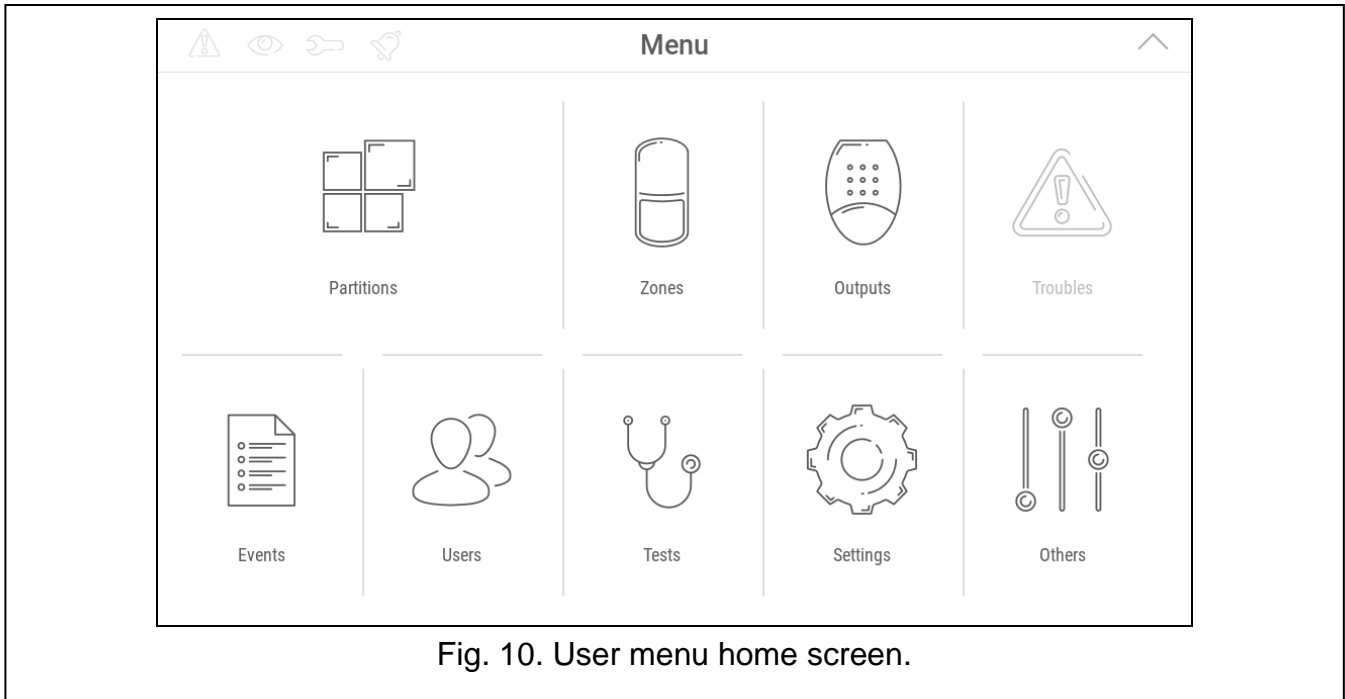

Fig. 10. User menu home screen.
3. Enter the service code (by default: 12345) and tap . The user menu home screen will be displayed (Fig. 10).